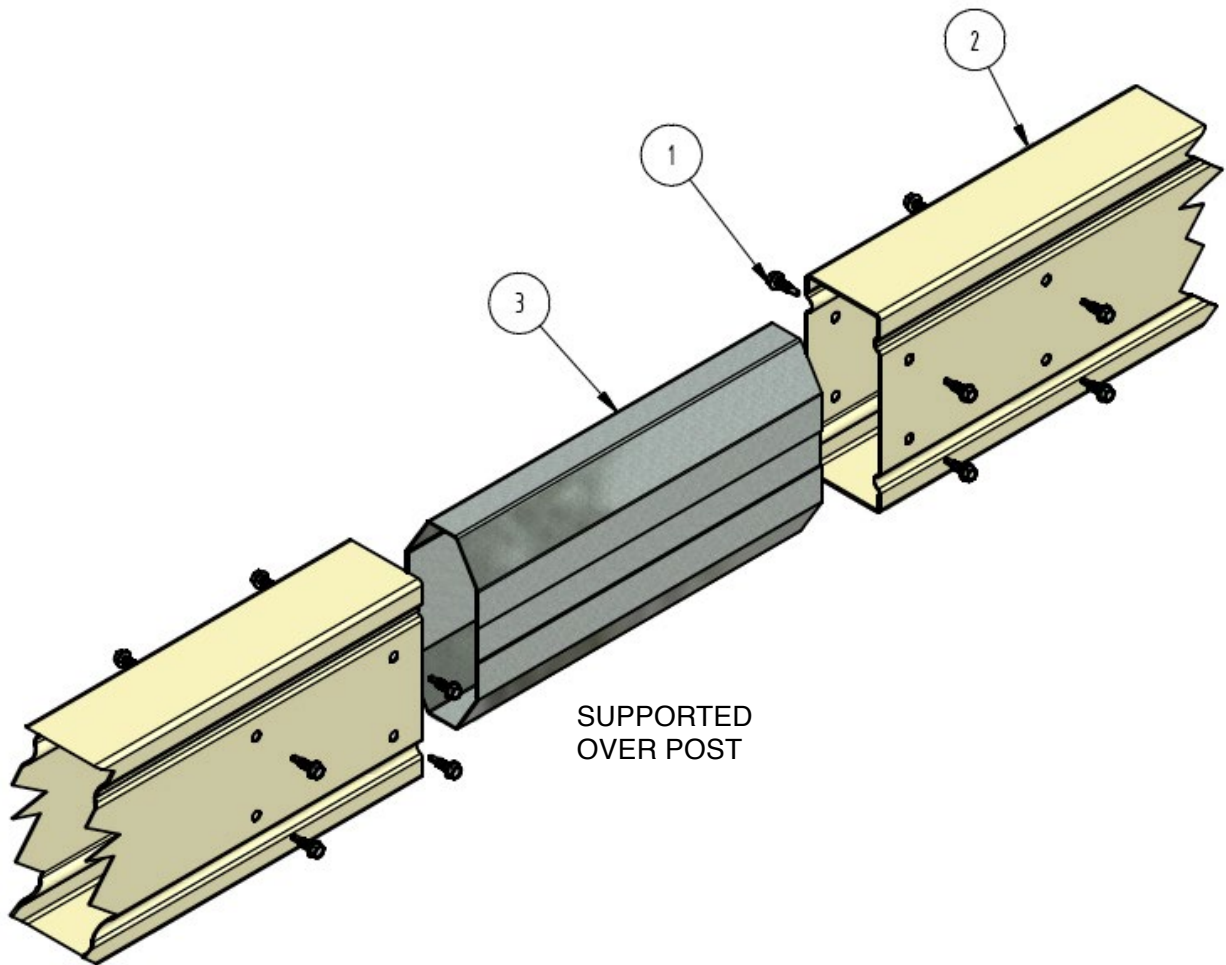

Figure A40
**Beam to Beam Joiner (See Figure A40)**